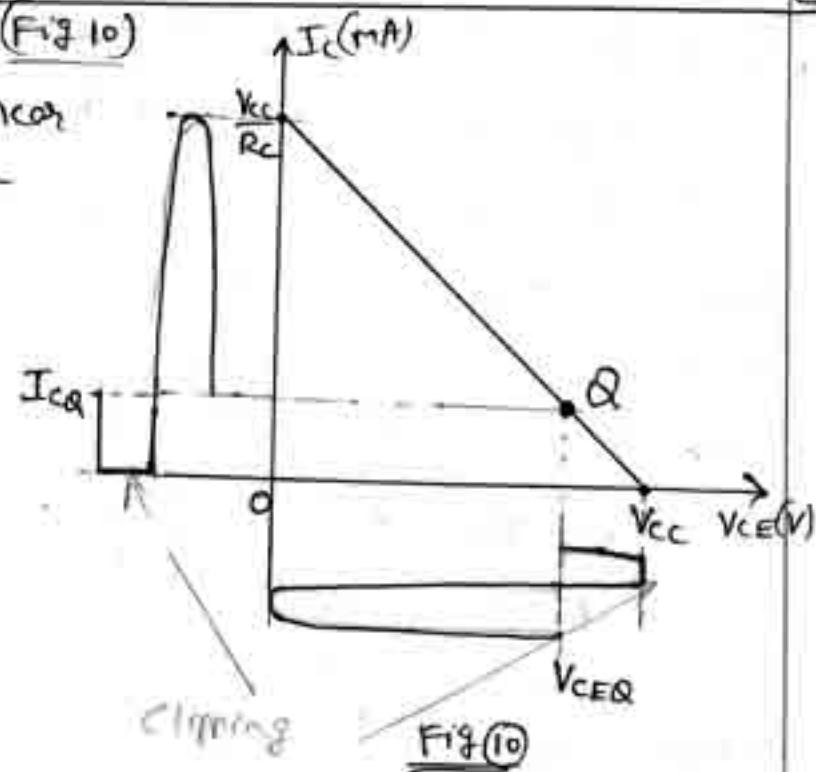

Fig 10
⑥ Near cut-off region (Fig 10)